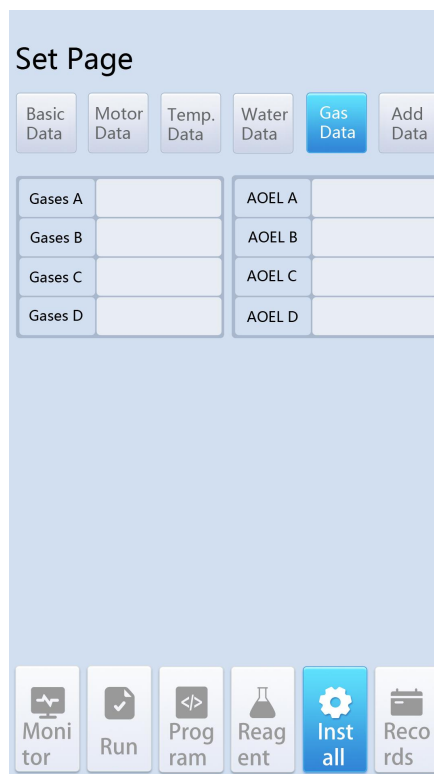

Fig. 17 Gas Parameter Interface
5. Gas parameter: This interface is used to view the parameters of gas detection, with reserved functions as shown in Figure 17. The interface contents are as follows: